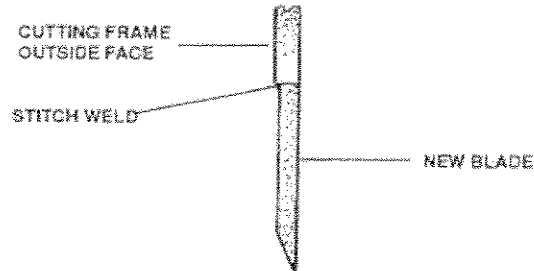

Fig. 3
1. If blade is irreparably damaged, it must be replaced. To replace, grind the stitch welds away. Clean away old welds to present a flat surface for the new blades. Check that the blade is the right way round, see fig 3, and stitch weld to new blade in place. Check all the time that it is square and true.